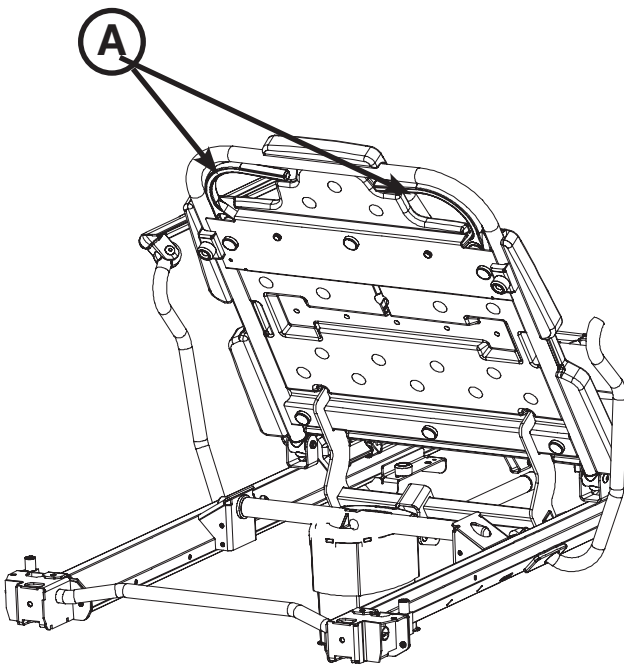

Figure 22: Pneumatic Fowler - Prime
To raise the fowler, squeeze either or both of the yellow fowler handles (A) for pneumatic assist until the fowler has reached the desired angle (between 0 and 90 degrees) as shown in Figures 22 and 23.
To lower the fowler, squeeze either or both of the yellow fowler handles (A) and push down until the fowler has reached the desired angle (between 90 and 0 degrees) as shown in Figures 22 and 23.